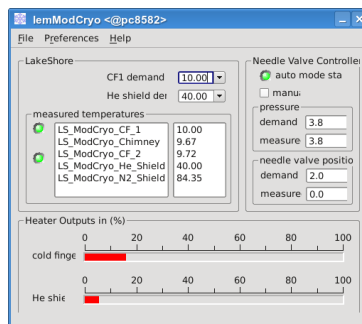

Figure 4.3: The lemModCryo window to control the moderator cryostat.
4. Warm up the moderator to evaporate previous gas layers (if present). From the experiment laptop, run `lemModCryo` shown in Fig. 4.3. Set “CF1 demand” (CF = Cold Finger), as well as “He Shield demand” to 150 K. Set the He-pressure “demand” on the right side of the window to 0.